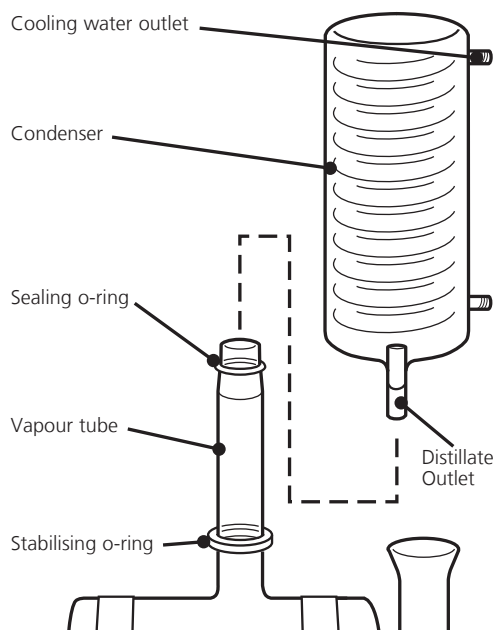

Fig. 3a
6. Fit one of the condensers (Fig. 3, item 4) to the left hand vapour tube ensuring that the distillate outlet faces the front and the two water connections are parallel to the unit. When slight resistance is felt when fitting the condenser, press down slightly on the top of the condenser until a gap of approximately 19mm exists between the condenser and the boiler (Fig. 3a).